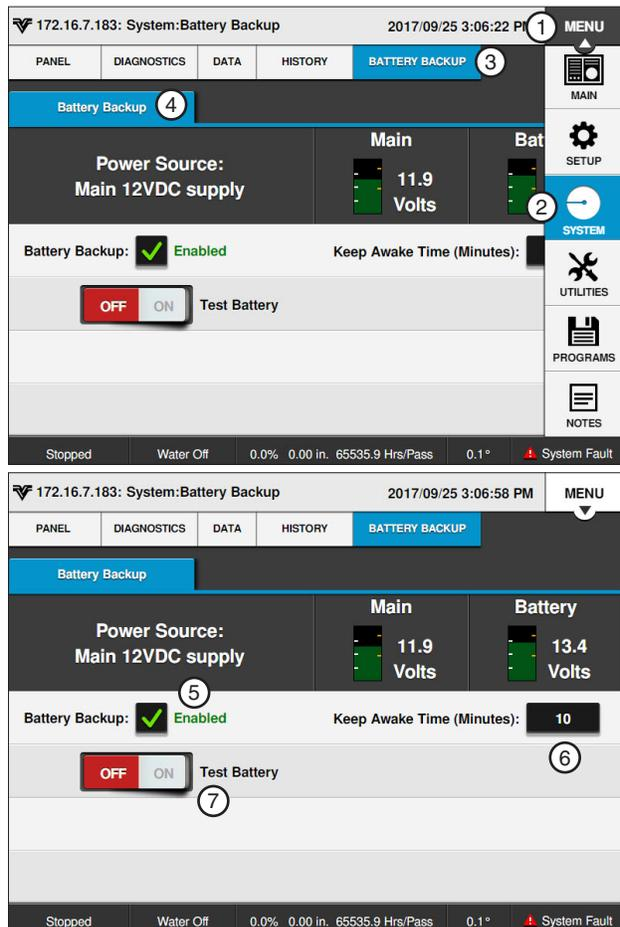

Figure 62-1 1. Menu 2. System 3. Battery Backup 4. Battery Backup 5. Battery Backup Checkbox 6. Keep Awake Time (Minutes) 7. Test Battery
The Battery Backup screen provides the ability to keep the ICON, SRB and telemetry awake for a set amount of time while the fault is sent to BaseStation. The Battery Backup screen also monitors the voltage from the main power source and the battery. The normal range of each voltage measurement is indicated by orange marks along one side of the volt meter. Battery Backup requires additional hardware. Refer to Figure 62-1.
1. Push **Menu**, **System** and **Battery Backup** to display the Battery Backup screen. Refer to Figure 62-1.